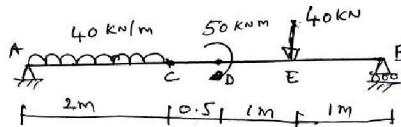

Fig. Q6 (b)
- b. Draw shear force diagram and bending moment diagram for the beam shown in Fig. Q6 (b). (15 Marks)